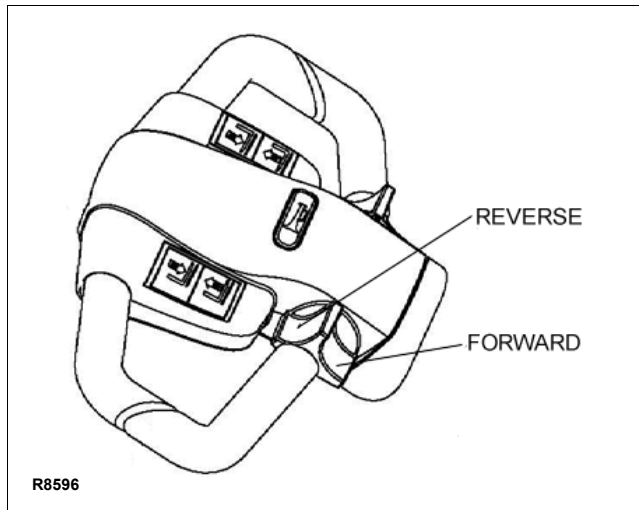

Figure 2-2 Forward/Reverse Control
The speed control (See Figure 2-2) located on each side of the control head provides fingertip control for driving the truck. Rotate the control in the direction you want to travel. The farther you rotate the control from the neutral position, the faster the truck will travel.
3. To move forward (with load trailing you), slowly press the speed control towards you. See Figure 2-2. Press the forward speed control farther to increase speed.
5. Procedures for movement in reverse are the same as in the forward direction except slowly press the speed control in the opposite direction. See Figure 2-2.